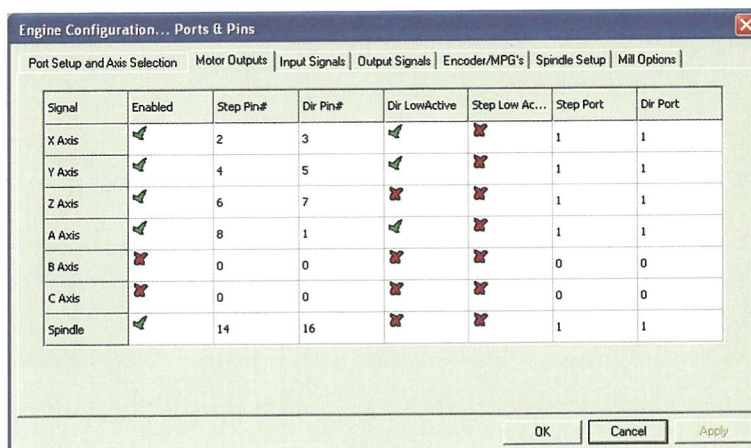

Fig. 6
- ◆ On the Mach3 menu select <Config/Ports and Pins> and select the **Motor Outputs** tab at the top of the window - see Fig 6.